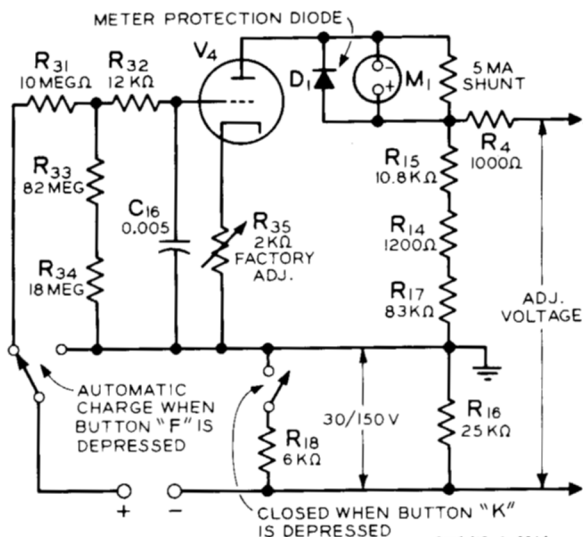

FIGURE 4
3.1 The insulation resistance test is made only on electrostatic capacitors such as paper, mica, ceramic, etc. (Electrolytic capacitors are tested for leakage current as in section 4). The test circuit is shown in Figure 4. Passage of current thru the capacitor or other circuit element under test causes an increase in the negative bias on the grid of tube V_4 and a consequent decrease in plate current. The plate current meter is calibrated directly in megohms.